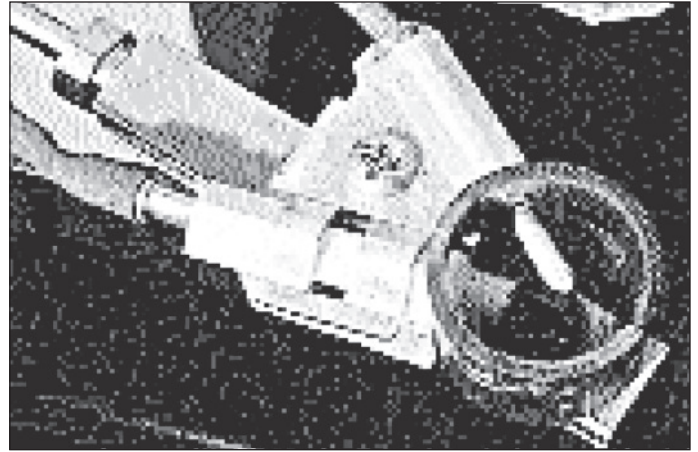

Figure 5-10.
1. Is electrode in the correct position? (See Figure 5-10)